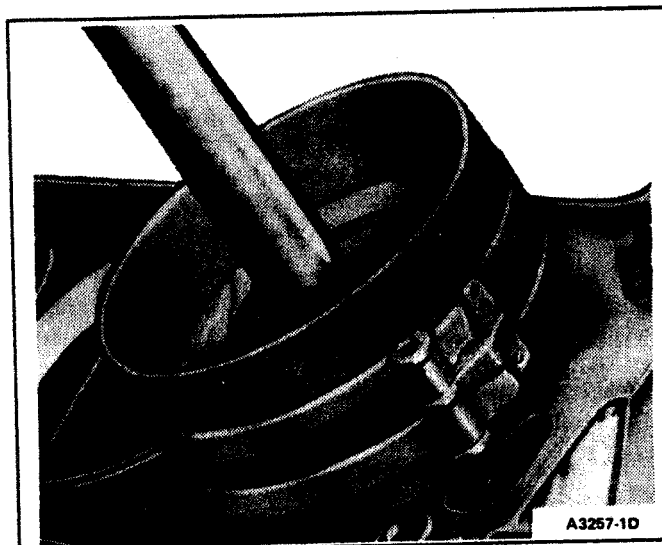

FIG. 65 Installing Piston
4. Turn crankshaft throw to position shown in Fig. 65.
5. Install connecting rod upper bearing, and install guide sleeves, Rotunda Model 014-00313. Before installing, verify that large chamfer on connecting rod faces crankshaft cheek (facing toward front on engine on right bank rods, and toward rear of engine on left bank rods). Install a piston ring compressor Tool D81L-6002-C on piston and push piston in with a hammer handle until it is slightly below top of cylinder (Fig. 65). Guide connecting